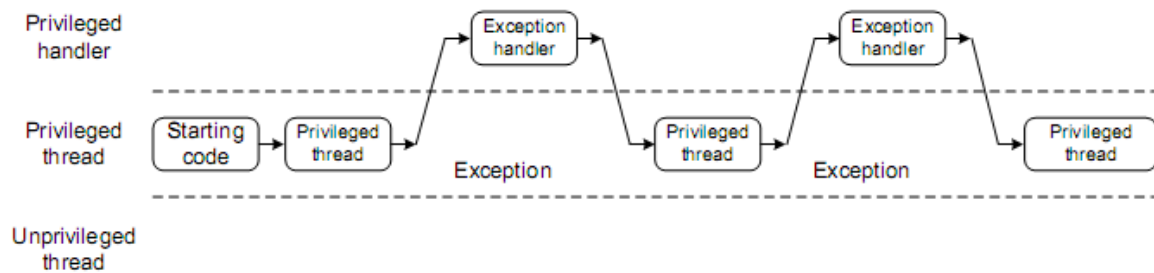

Figure 13: Simple applications do not require unprivileged Thread mode
- In most simple applications without an embedded OS, there is no need to change the value of the CONTROL register. The whole application can run in privileged access level and use only the MSP as shown in figure 13.